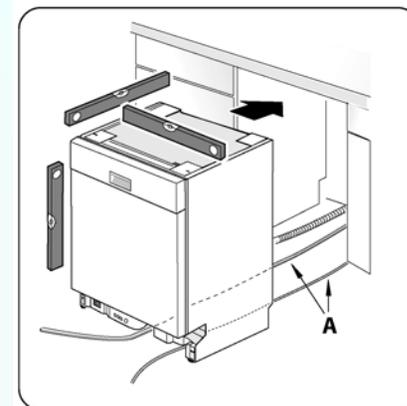
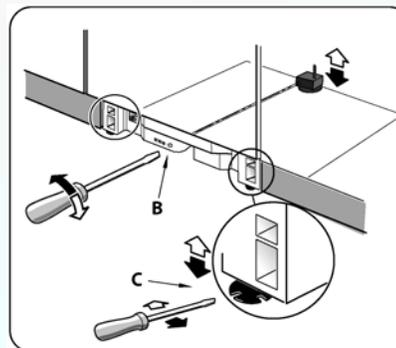
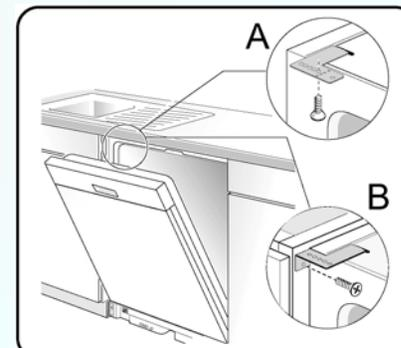

Figure 19
Figure 20
Figure 21
- 2) Position the dishwasher close enough to the enclosure so that you can run the dishwasher drain hose to the under sink drain connection. Make certain that the hot water supply line and the electrical supply cable are in their channels under the dishwasher base, as shown in Figure 19, letter A.
- 4) Perform a level check as shown in Figure 19. Adjust the rear leveler by turning the center screw at the front of the dishwasher, as shown in Figure 20, letter B. Turning the screw clockwise raises the rear of the dishwasher. Adjust the front levelers by turning them with a screwdriver, as shown in Figure 20, letter C. Turning the levelers to the right raises the dishwasher. If additional height is needed, shims may be added under the leveler feet.
Drive the mounting screws through the holes in the mounting brackets, as shown in Figure 20, letter A for top mount, or as shown in Figure 21, letter B for side mount.